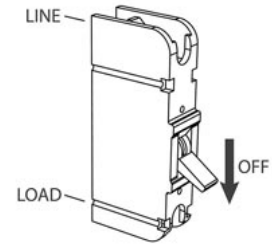

Figure 27. Turn Breaker Off
- Step 1.** Ensure that breaker is in the OFF position before installing into panel (see Figure 27).